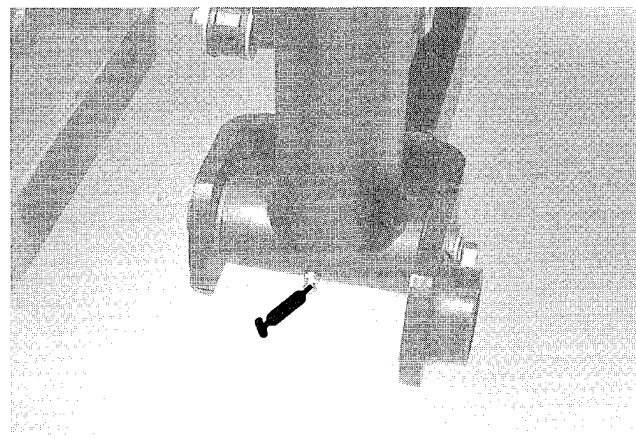

Figure 31
30); Lift arm pivot (3), (Fig. 31); Rear axle pivot (Fig. 32)